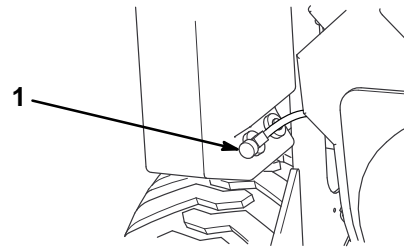

Figure 28
2. Shut off the fuel valve on the bottom of each fuel tank (Fig. 28).
3. Shut off the fuel valve on the bottom of each fuel tank (Fig. 28).